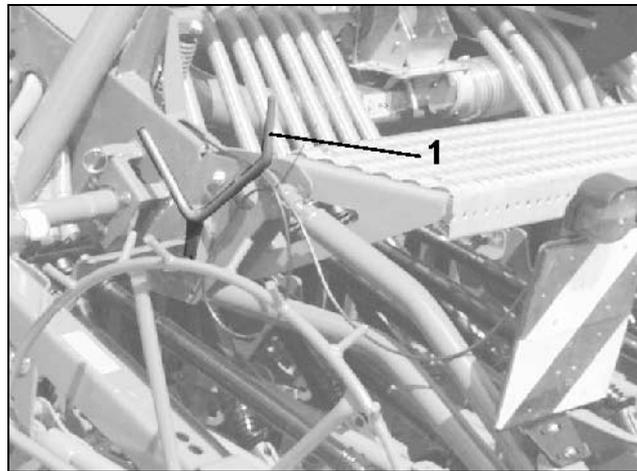

Fig. 68
- Take the calibration crank (Fig. 68/1). The calibration crank is placed on left hand side on the harrow tine pocket, seen in direction of driving.
- place the calibration crank (Fig. 68/1) back into the retainer